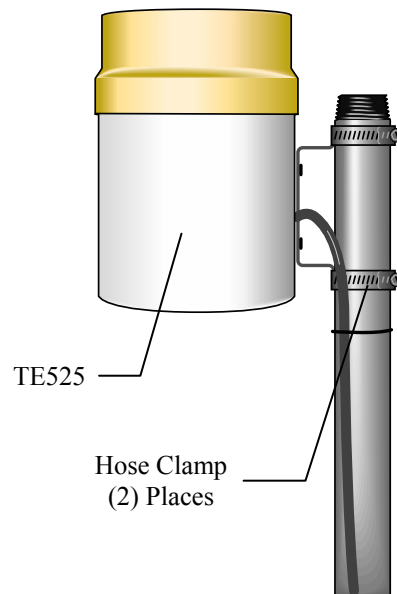

FIGURE 4-8. TE525 Texas Electronics Rain Gage
1. Mount the rain gage to a CM300-series pole or a user-supplied pole as shown in FIGURE 4-8. Mounting the gage directly to the tripod or tower is not recommended.